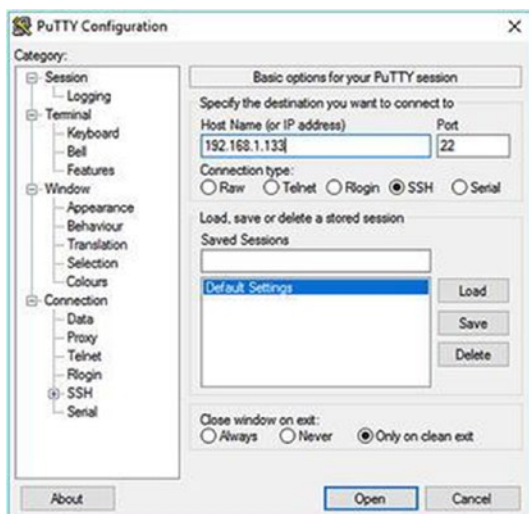

Figure 2-10. PuTTY configuration window
1. Open the PuTTY interface (see Figure 2-10).